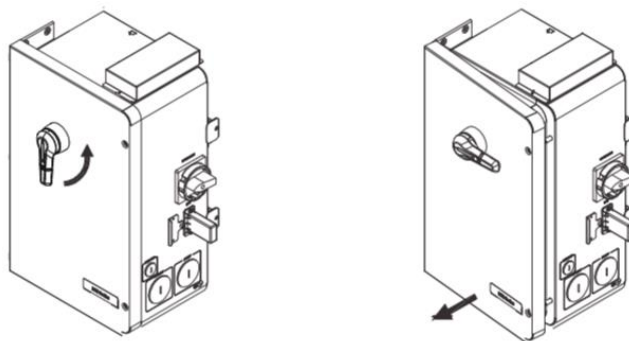

Figure 3-22 Removing the Wire Box Cover
2. Tabs hold the left side of the wire box cover in place, and the cover is secured by two screws on the right side. Use a no. 3 Phillips head screwdriver to remove the two (2) screws on the wire box.
3. Pull the right side of the cover away from the wire box approximately one inch (2.5 cm) before sliding the cover right to release the tabs. This will free the cover from the enclosure and allow the cover to be removed (Figure 3-22):